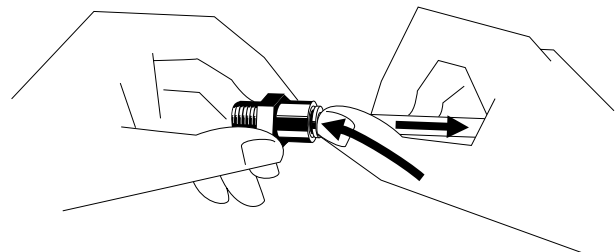

Figure 11
4. Release all the pneumatic tubes from the part to be replaced (see a) "Removing the pneumatic tubes", page 11, Fig. 11).
4. Release all the pneumatic tubes from the part to be replaced (see a) "Removing the pneumatic tubes", page 11 - Fig. 11).
6. Remove the cover screw (1) and the O-ring (2) from the flowmeter tube (4) with a small screwdriver.
7. Tilt the flowmeter until the "floating" ball (3) rolls out of the flowmeter tube (4).
8. Clean the "floating" ball (3) and the inside of the flow meter tube (4) with a clean cloth.